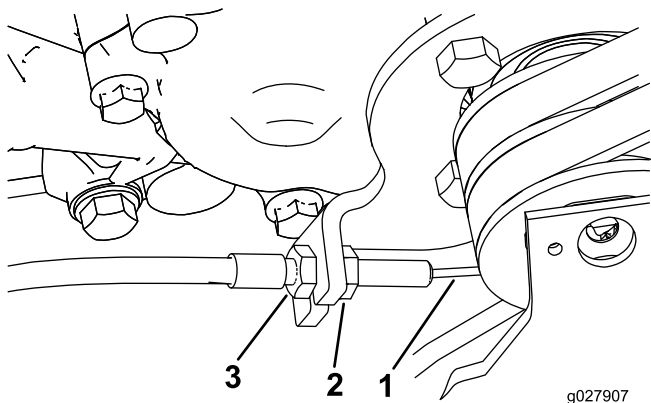

Figure 42
3. To increase the cable tension, loosen the front cable jam nut and tighten the back cable jam nut (Figure 42) until a force of 2.75 to 3.25 kg (6 to 7 lb) to engage the traction control.